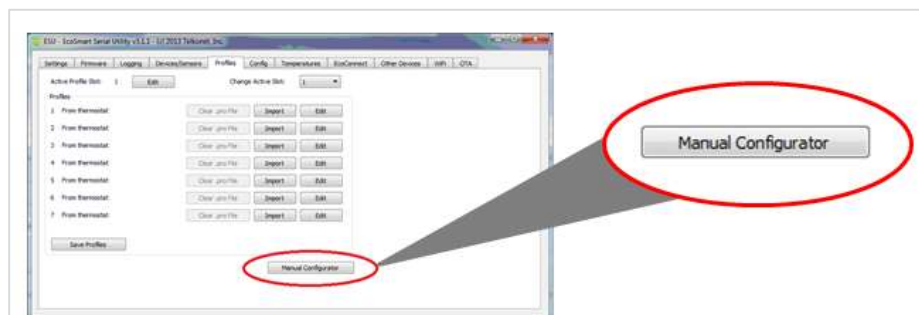

Figure 5
3. Select the **Manual Configurator** button (Figure 5).